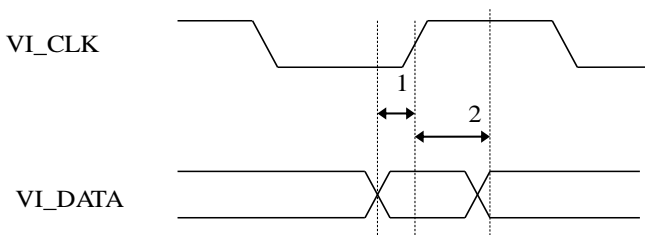

FIGURE 11. VI\_CLK AND VI\_DATA TIMING
2. The TW2826 has option to latch VI data using both positive and negative edge; please refer to register 0x22[7:4] and "Application Guide 6: Video Input Configuration" on page 39. In Figure 11, we only characterize rising edge case.